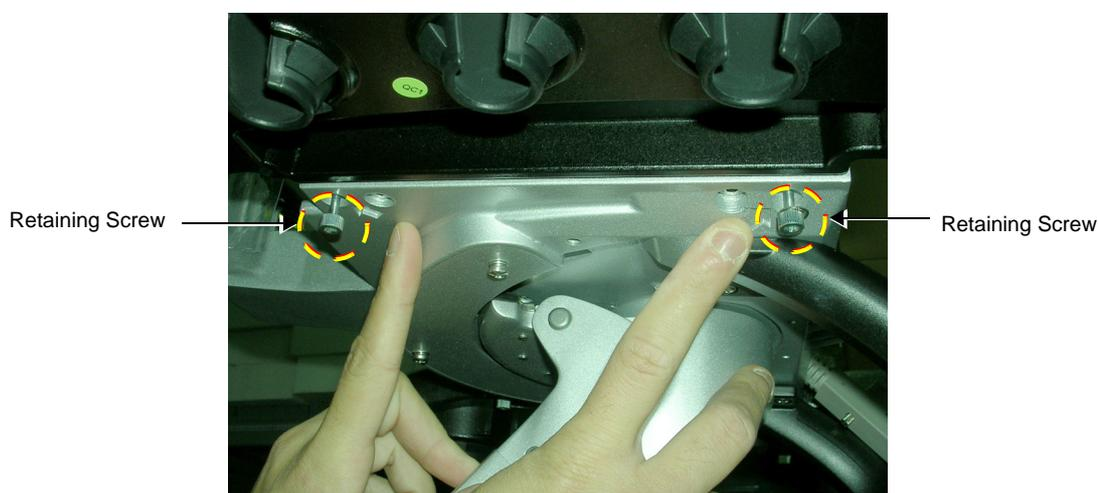

Figure 8-270 Probe Shelf - Viewed from Below indicating Retaining Screws
- 2) Working from below, and while carefully supporting the Probe Shelf Holder, remove the 4 retaining screws - two on either side - as seen in Figure 8-270.